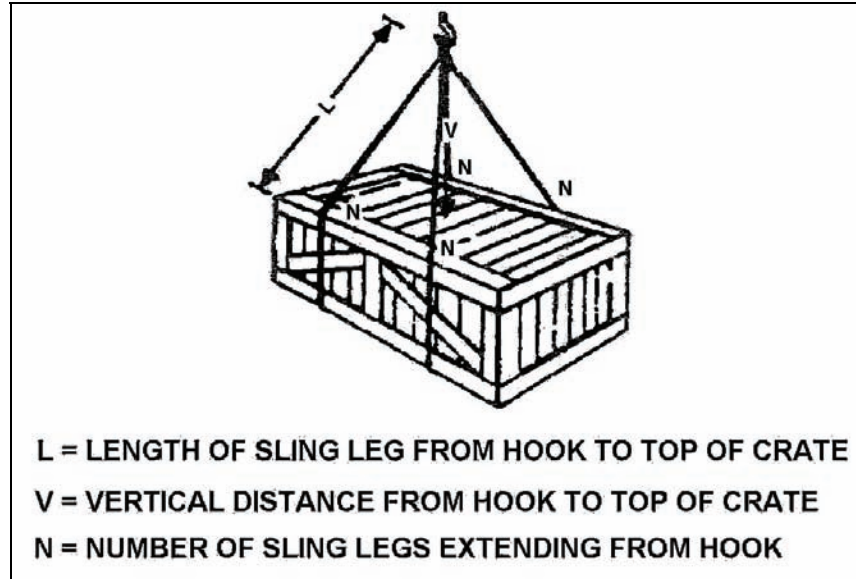

Figure 3-119. Multiplying Weight of the Load by the Length of the Slings
- a. Multiply the weight of the load by the length of the slings (see Figure 3-119).